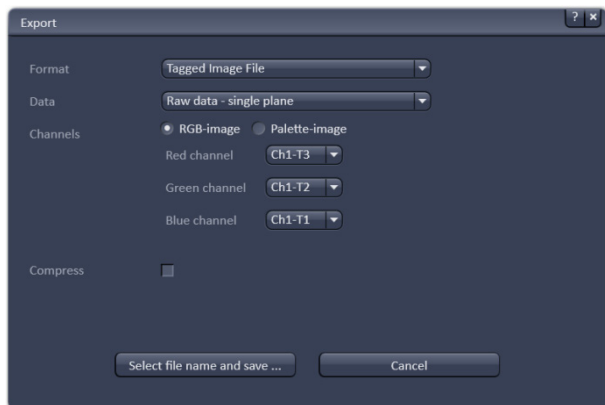

Fig. 770 Export window
- This opens the **Export** window (Fig. 770).